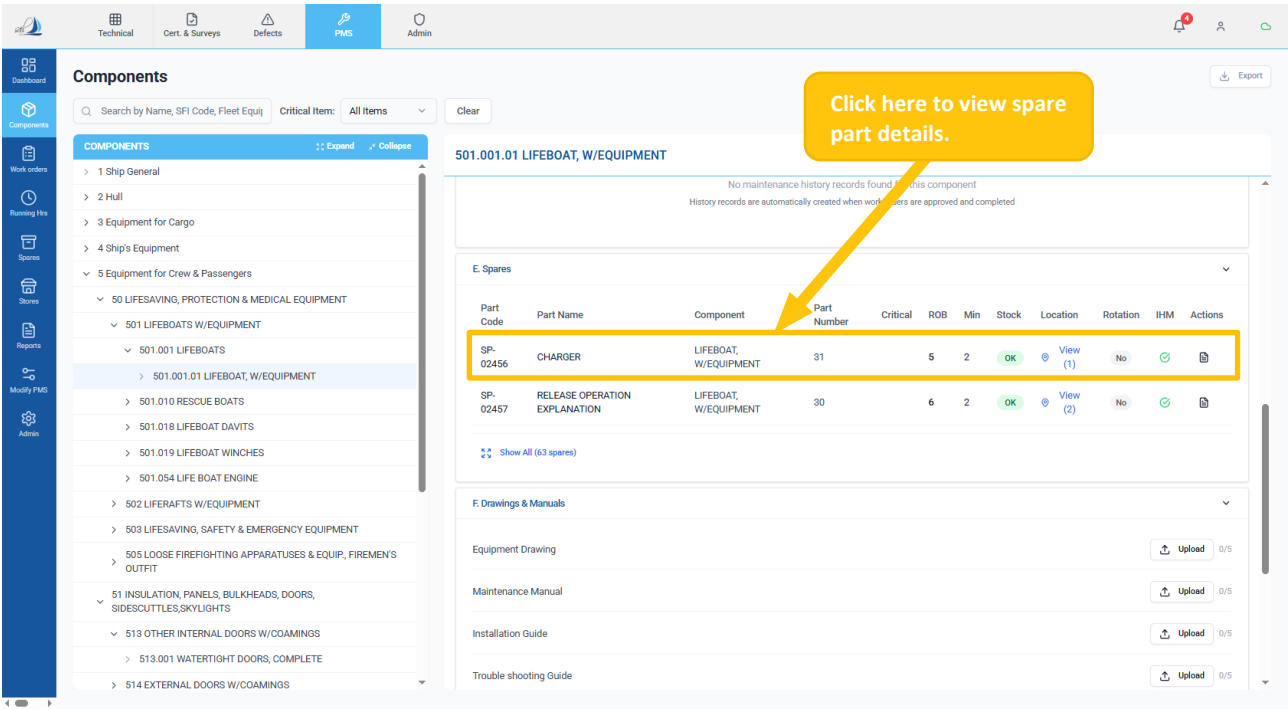

Figure 24
- Click anywhere on a spare part from the list to view its detailed information. (Ref Figure 24)